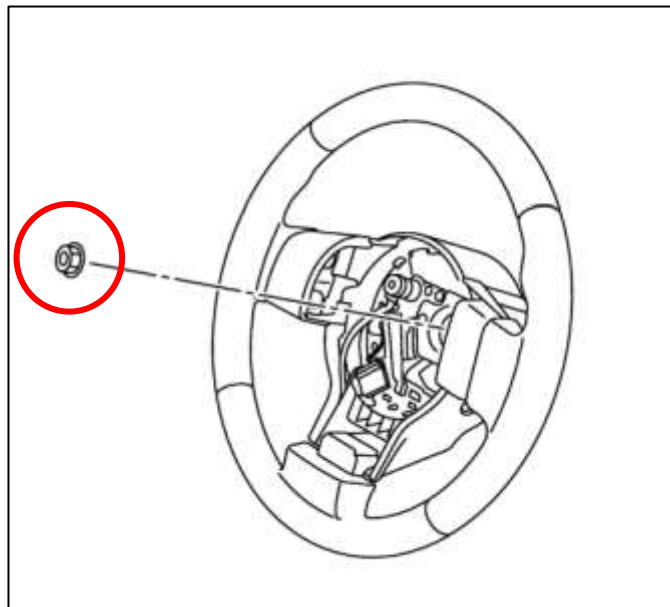

Figure 4
10. Using an Impact Gun, remove the nut in the center of the Steering Wheel. *Figure 4.*